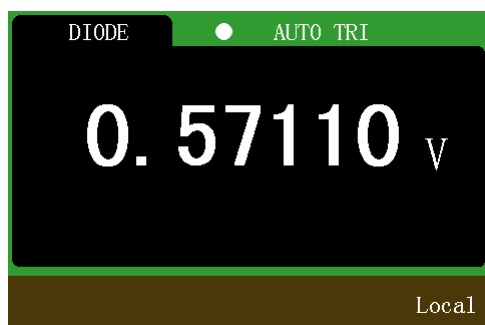

Figure 4-19 Measurement interface
1. Press  to select the diode measurement function by default. "OPEN" is displayed when the voltage value is higher than the measuring threshold, and the measured voltage is displayed when the measured value is below the measuring threshold. The diode threshold voltage is 3.2V. The measurement interface is shown in Figure 4-19.